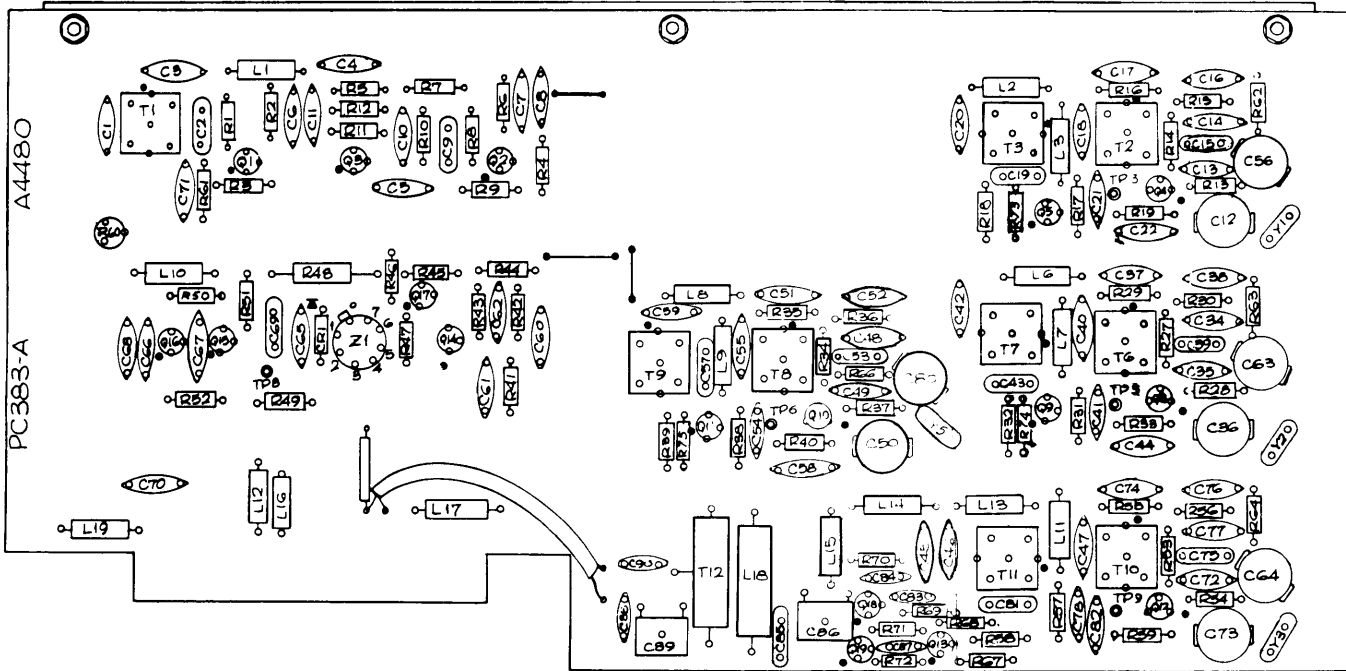

Figure 5-11. Spectrum Generator Z101, Board Component Locations
a. INTRODUCTION. Repair of the chassis-mounted power supply circuitry follows standard laboratory procedures. Repair of printed circuit cards and card receptacle wiring, however, require the special tools and techniques as outlined here. Section 6, Parts List, lists all replaceable parts and their circuit symbol numbers. These symbol numbers are shown on the schematics contained in Section 7 and located on figures 5-11 through 5-27.